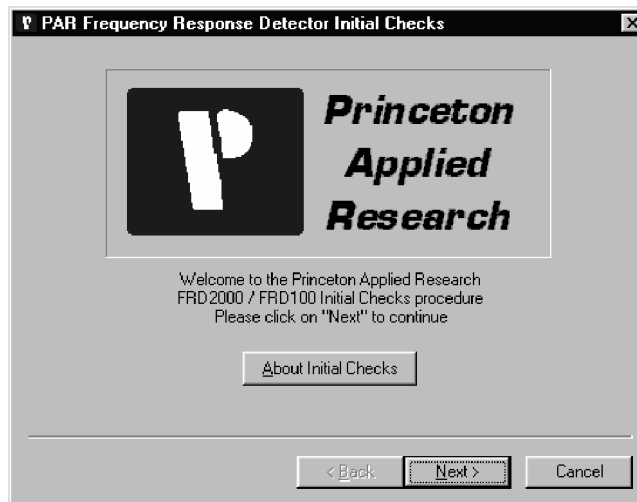

Figure 2-2, Initial Checks Procedure, Opening Screen
- 8) The Initial Checks program will now run. The opening screen will appear, as shown in figure 2-2.